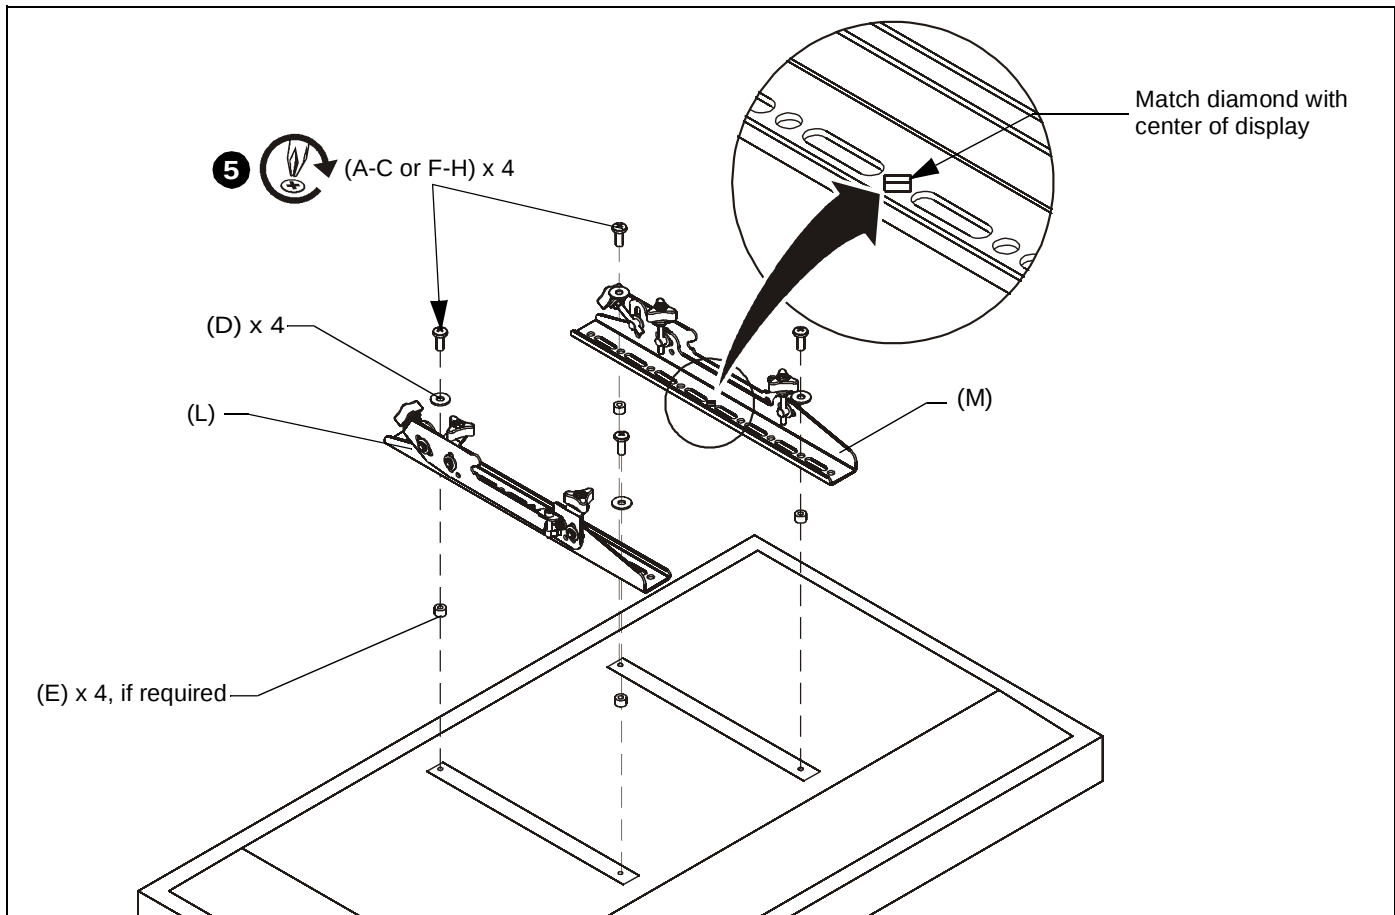

Figure 3
2. Select screw *diameter* by examining hardware (A-C and F-H) (6mm or 8mm) and comparing with mounting holes on display. (See Figure 3)
- Spacers (E) **ARE** required if mounting holes are recessed, or if protrusions prevent interface brackets (L and M) from laying flat.
4. Select screw *length*: (See Figure 3)
- By hand, insert **SHORTEST** length screw of selected diameter (A or F) through 1/4" washer (D), bracket (L or M), selected spacer (E, if required), into display mounting hole. Do **NOT** thread screw into hole at this time.
5. Make sure diamond on interface brackets is even with center of display. (See Figure 3)
6. Use selected screws (A-C or F-H), washers (D) and spacers (E), if necessary, to connect interface brackets (L and M) to back of display. (See Figure 3)